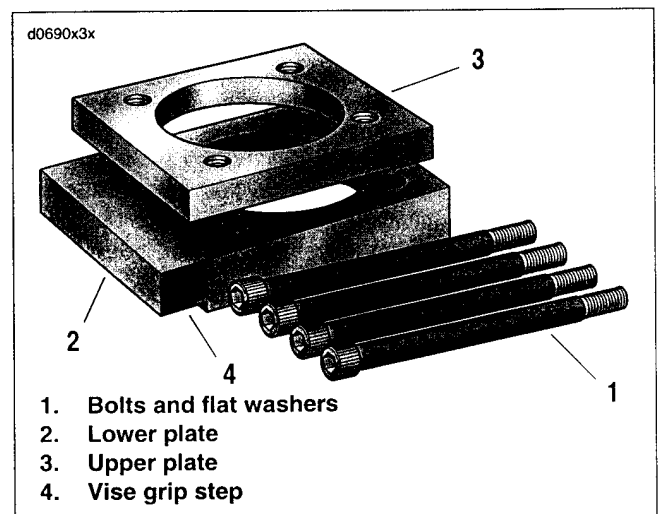

Figure 3-110. Cylinder Torque Plates (Part No. HD-42324-A)
6. See Figure 3-110. Check the machined surfaces for flatness using a feeler gauge and CYLINDER TORQUE PLATES (Part No. HD-42324-A) as follows:
- a. Lay gasket side of the upper torque plate (3) (without vise grip step) flat against the head gasket surface of the cylinder.
- e. Now turn the cylinder upside down and lay the seal side of the lower torque plate (2) (with vise grip step) flat against the O-ring seal surface. Repeat steps 6.b. and 6.c. above.